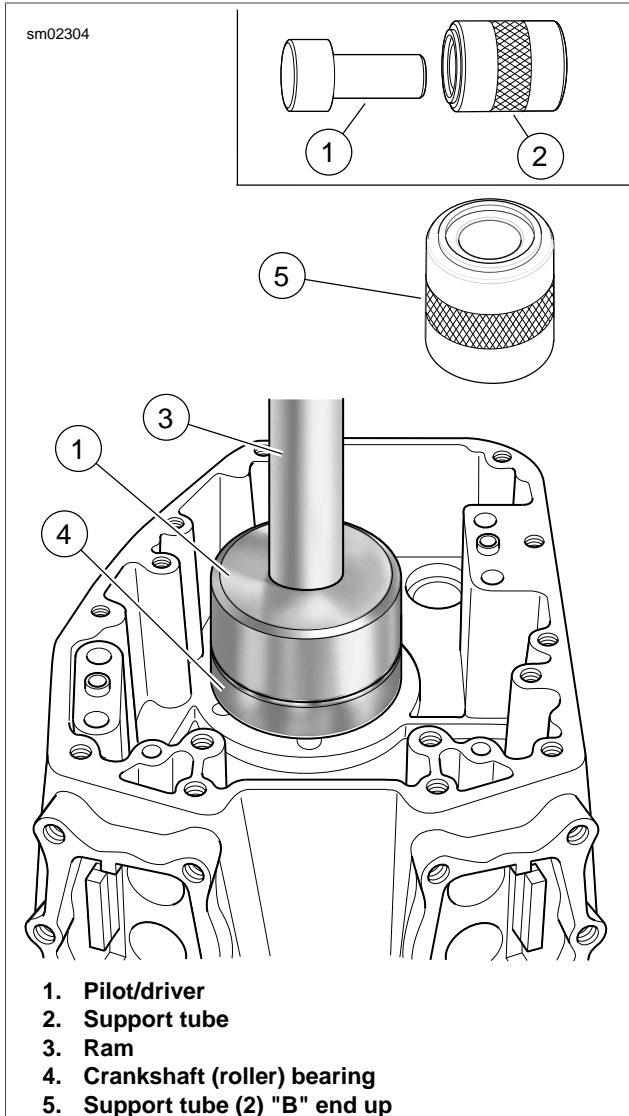

Figure 3-131. Crankshaft (Roller) Bearing Installation
1. See Figure 3-131. Obtain CRANKSHAFT (ROLLER) BEARING REMOVAL/INSTALL PILOT/DRIVER (Part No. B-45655) and CRANKSHAFT (ROLLER) BEARING REMOVAL/INSTALL SUPPORT TUBE (Part No. HD-42720-5).
2. Obtain **new** crankshaft (roller) bearing (4). Spread a thin film of clean engine oil on O.D. of **new** bearing.
3. Turn support tube (2) over so that the "B" end is up. The sides of the support tube are stamped "A" and "B" to ensure proper orientation.
- Slide pilot/driver (1) through bearing into support tube.
- Center pilot/driver under ram (3) of press. Apply pressure to pilot/driver until resistance is felt and bearing is bottomed on the support tube.